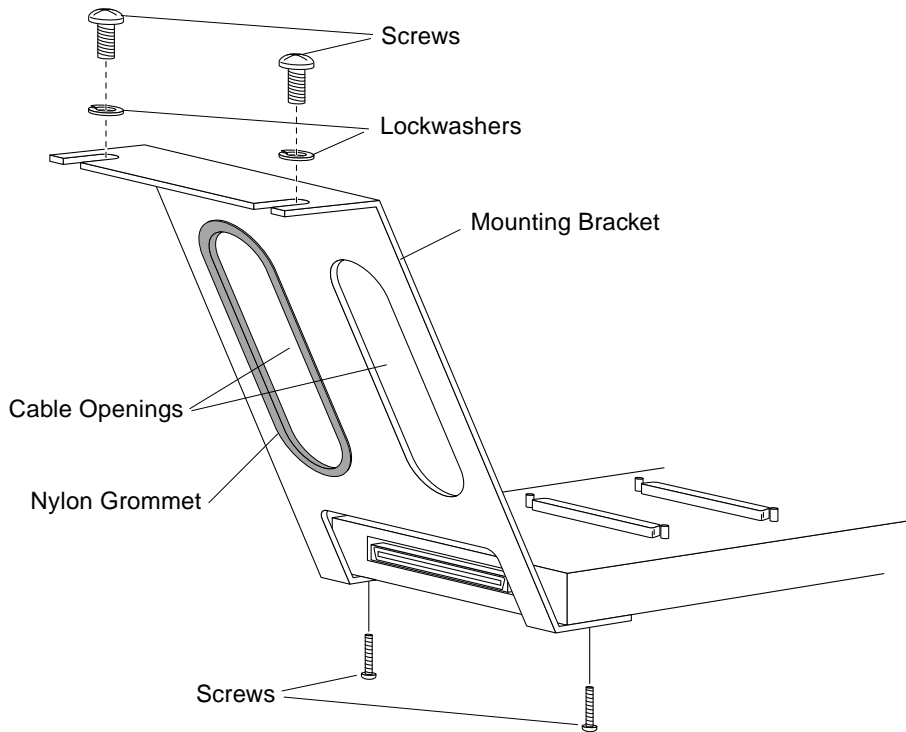

FIGURE 2-3 Attaching the Rack Mounting Bracket
1. Remove the screws that secure the four rubber feet to the bottom of the patch panel (FIGURE 2-3).